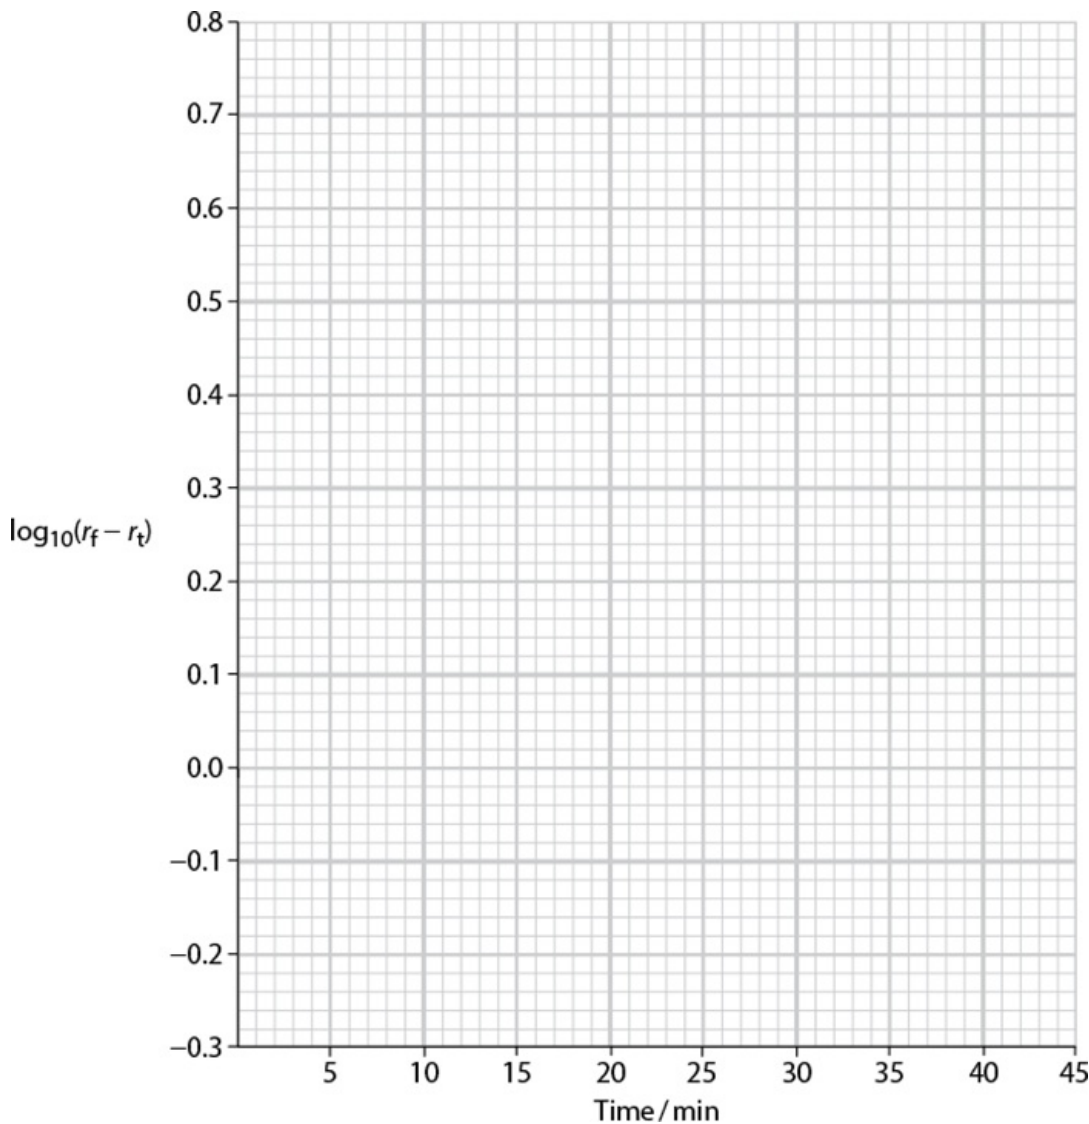

Figure 14.2: A graph of $\log_{10}(r_f - r_t)$ against time
- c** Using Figure 14.2, plot a graph of $\log_{10}(r_f - r_t)$ against time for the reaction using 0.20 mol dm^{-3} sodium hydroxide.